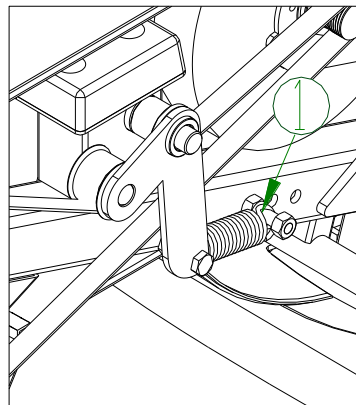

Figure 4
At the initial phase, the manufacturer of belt has finished resistance adjustment (shown as ①on figure 4), so it is unnecessary to adjust it the first time.